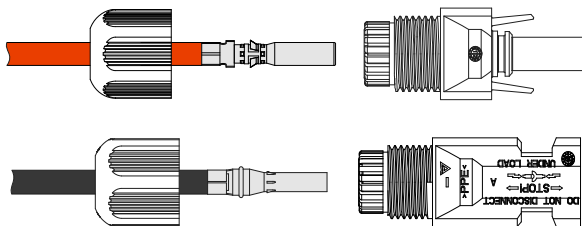

Figure3-16 Fasten the metal terminal
- Step 3 Insert the positive wire and negative wire into corresponding insulation crust respectively. If there has a click sound, it means that the wire have been inserted properly, as shown in Figure3-16.